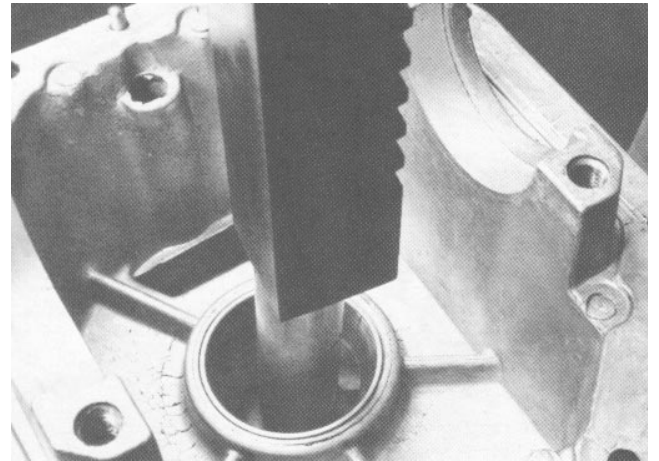

Figure 33
14. To remove the outer pinion bearing cup, position the housing in a press. Place a press plate of the proper size against the cup. Press the cup out of the housing (Fig. 33).